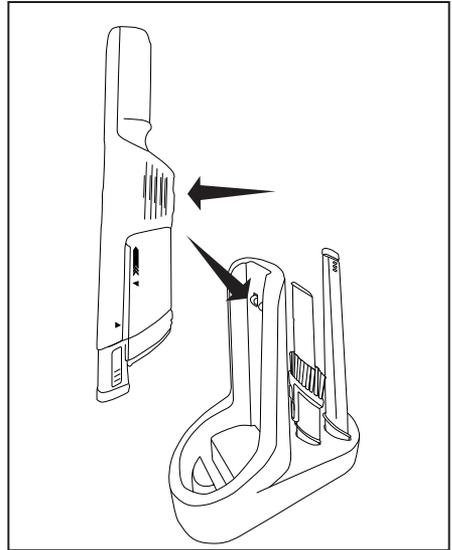

Fig. 1
1. Set the vacuum onto the Storage/Charging Station, ensuring the connection between the points on the vacuum with the Storage/Charging Station (Fig. 1).